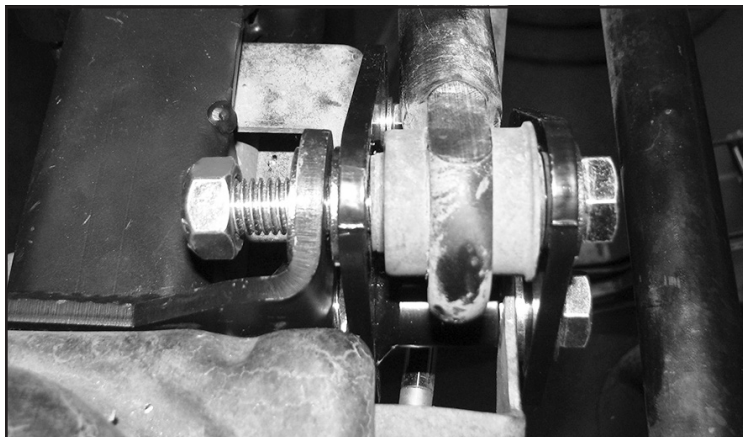

FIGURE 7 - STEP 8
8. Install FT50291BK (Inner Bracket) and FT50292BK (Outer Bracket) in the factory track bar bracket location using the supplied 9/16" bolt and hardware. Re-install the track bar using the supplied 9/16" bolt and hardware. **SEE FIGURE 7**